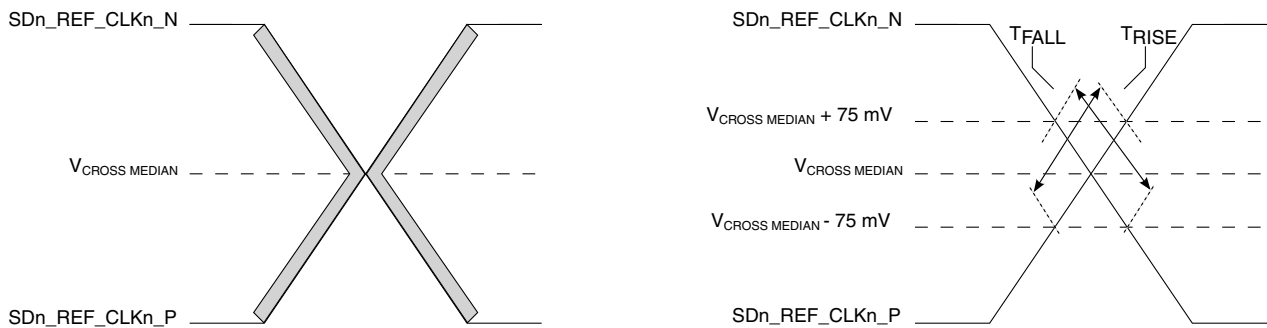

Figure 83. Single-ended measurement points for rise and fall time matching
11. Matching applies to rising edge for SD _n _REF_CLK _n _P and falling edge rate for SD _n _REF_CLK _n _N. It is measured using ±75 mV window centered on the median cross point where SD _n _REF_CLK _n _P rising meets SD _n _REF_CLK _n _N falling. The median cross point is used to calculate the voltage thresholds that the oscilloscope uses for the edge rate calculations. The rise edge rate of SD _n _REF_CLK _n _P must be compared to the fall edge rate of SD _n _REF_CLK _n _N, the maximum allowed difference should not exceed 20% of the slowest edge rate. See Figure 83 .